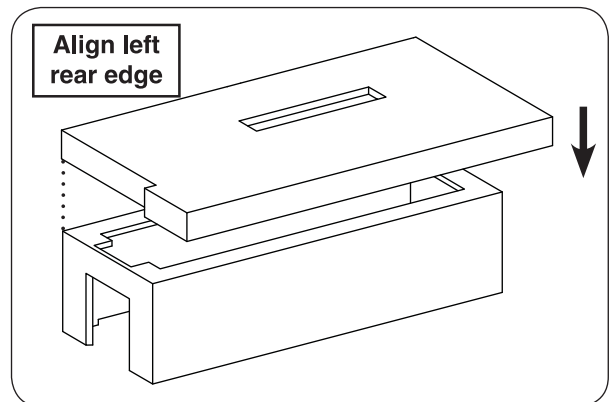

Fig. 15-2 Place shelf
2. Place the shelf piece on top of the hearth (no hardware required). The rear left corner of the shelf should rest flush with the hearth below. See Fig. 15-2.